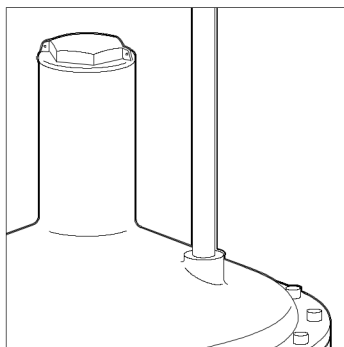

Fig. 3.
- 2) Connect the vent line ($\frac{1}{2}$ "), using a jointing compound approved to national standards, and lead to atmosphere in accordance with national standards. Ensure that no water can penetrate vent pipe. See Fig. 3.